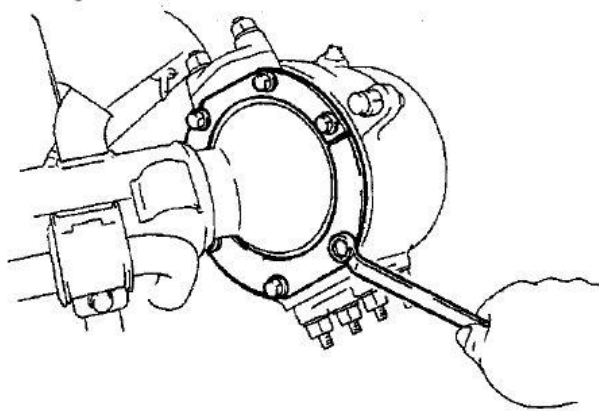

Fig 8
17. Install the axle ball seal supporting ring, ball seal and felt as per figure 12. Reinstall the grease seal guard/retainer as per fig 8.